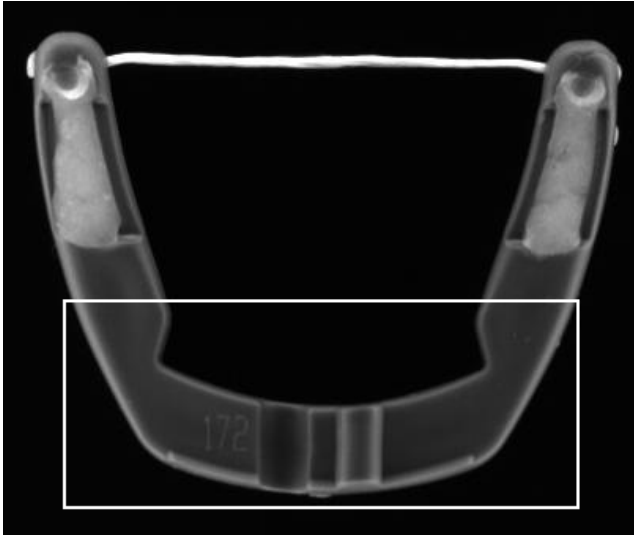

Figure 5-1. Creating a Template Pattern
3. Draw a rectangle around the base of the dental floss, as shown in Figure 5-1. This region becomes the pattern matching template.